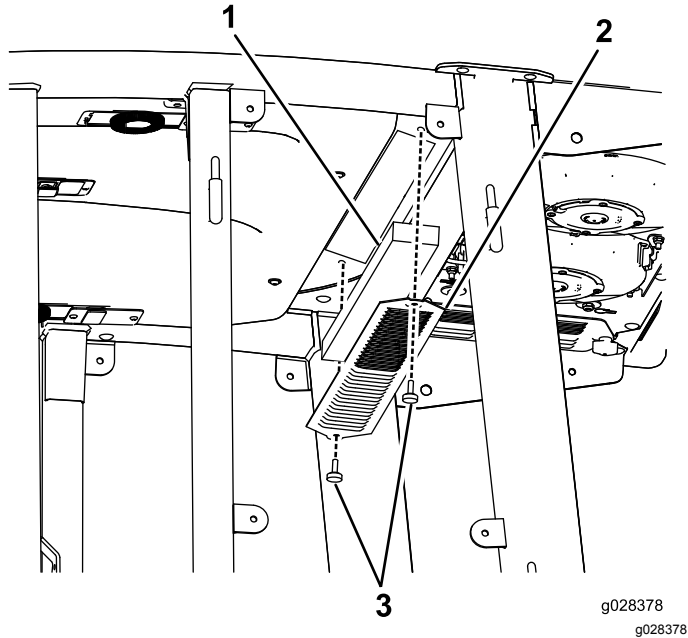
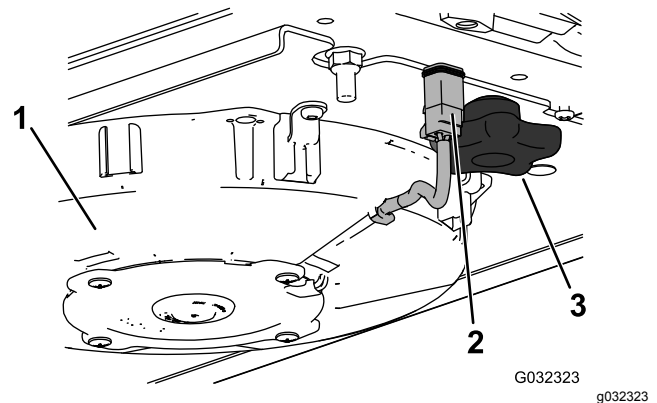
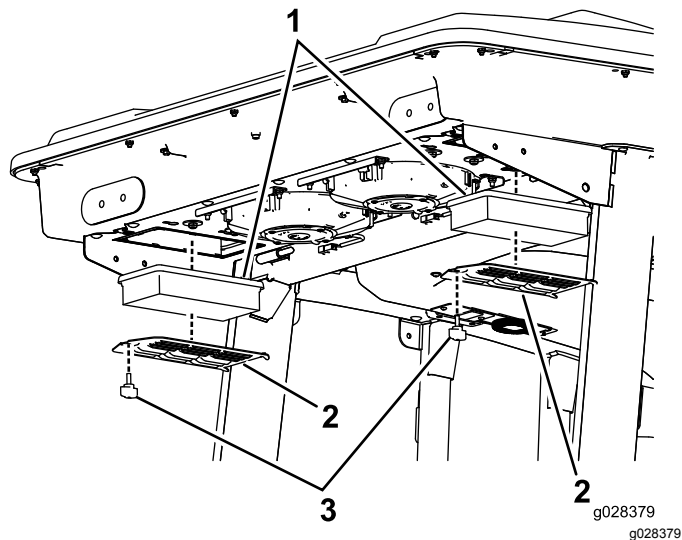

Figure 115
Figure 117
Figure 116
1. Remove the screws and grates from both the in-cab and rear cab air filters (Figure 115 and Figure 116).
5. Remove the air filters (see Figure 116).
7. Install the air filters, screen, and fan assembly (Figure 116, Figure 117, and Figure 118).
8. Connect the wire for each fan (Figure 117).